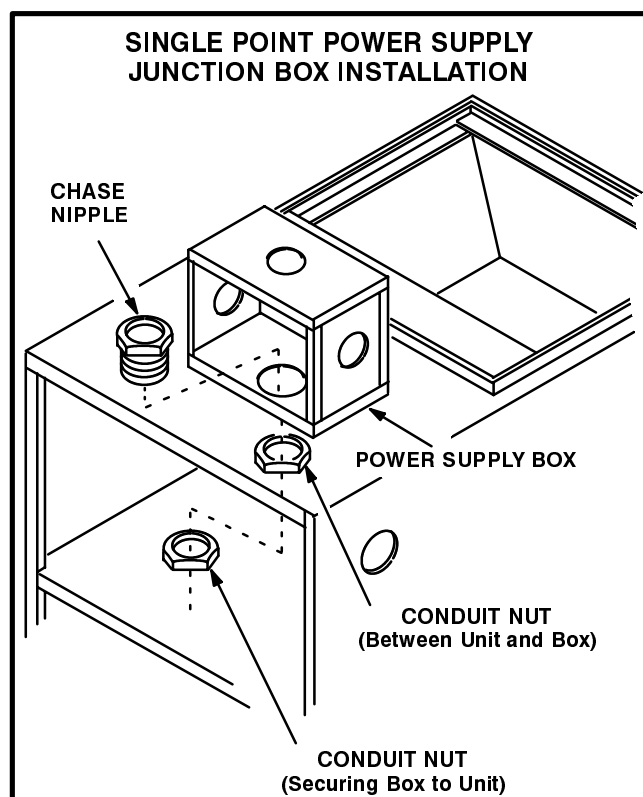

FIGURE 1
- 3-- Insert chase nipple through hole in cabinet and secure to unit with second conduit nut. See figure 1.